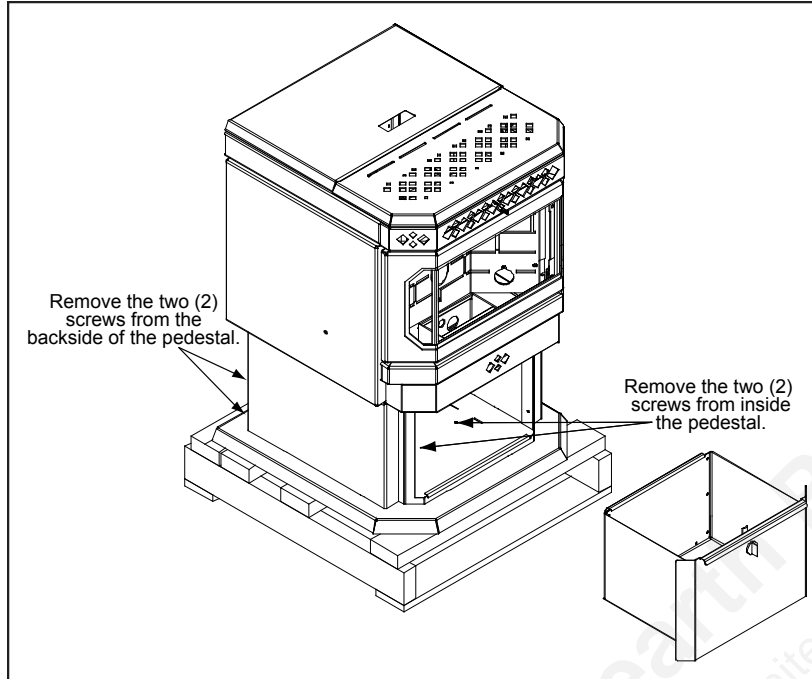

Figure 9: Screws to take out to remove freestanding unit from pallet.
**FREESTANDING:** To remove your new freestanding stove from its pallet, remove the ash pan and remove the two (2) wood screws inside this area as shown (see Figure 9). Also remove the two (2) wood screws on the back of the pedestal. Remove the unit from the pallet and replace the ash pan.